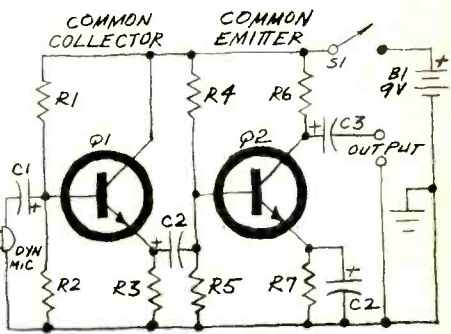

Fig. 5. Draw basic circuit diagram.
- 4. Now we can draw a preliminary design, such as that shown in Fig. 5. The battery supply is included, capacitors are marked for polarity, and components are numbered for reference.